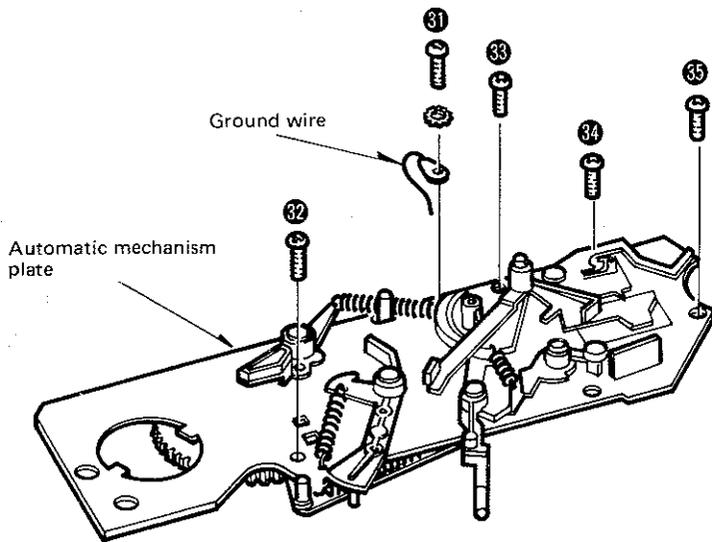

Fig. 9
2. Remove the stator frame. (Refer to item 2 of "How to remove the drive circuit P.C.B. and stator frame".)
3. Remove the ground wire setscrew (Fig. 9 : 31) and the ground wire.
4. Remove the 4 automatic mechanism plate setscrews (Fig. 9 : 32 ~ 35), Then the automatic mechanism plate Ass'y can be removed.